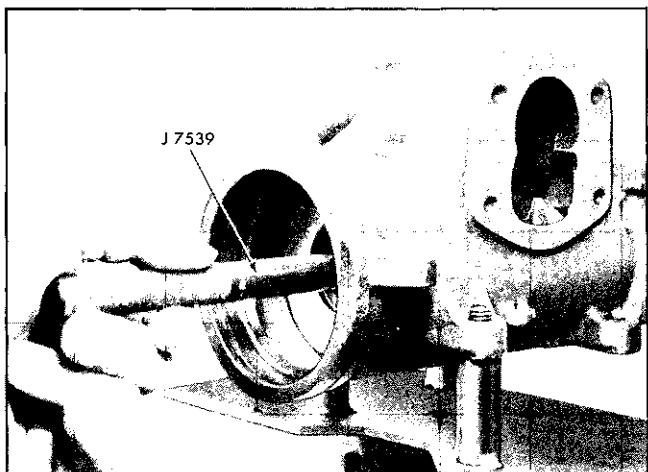

Fig. 9-50 Arbor J 7539 Against End of Steering Worm
1. Holding arbor tool J 7539 against end of steering worm, rotate stub shaft flange to left until rack-piston is free from worm (Fig. 9-50).